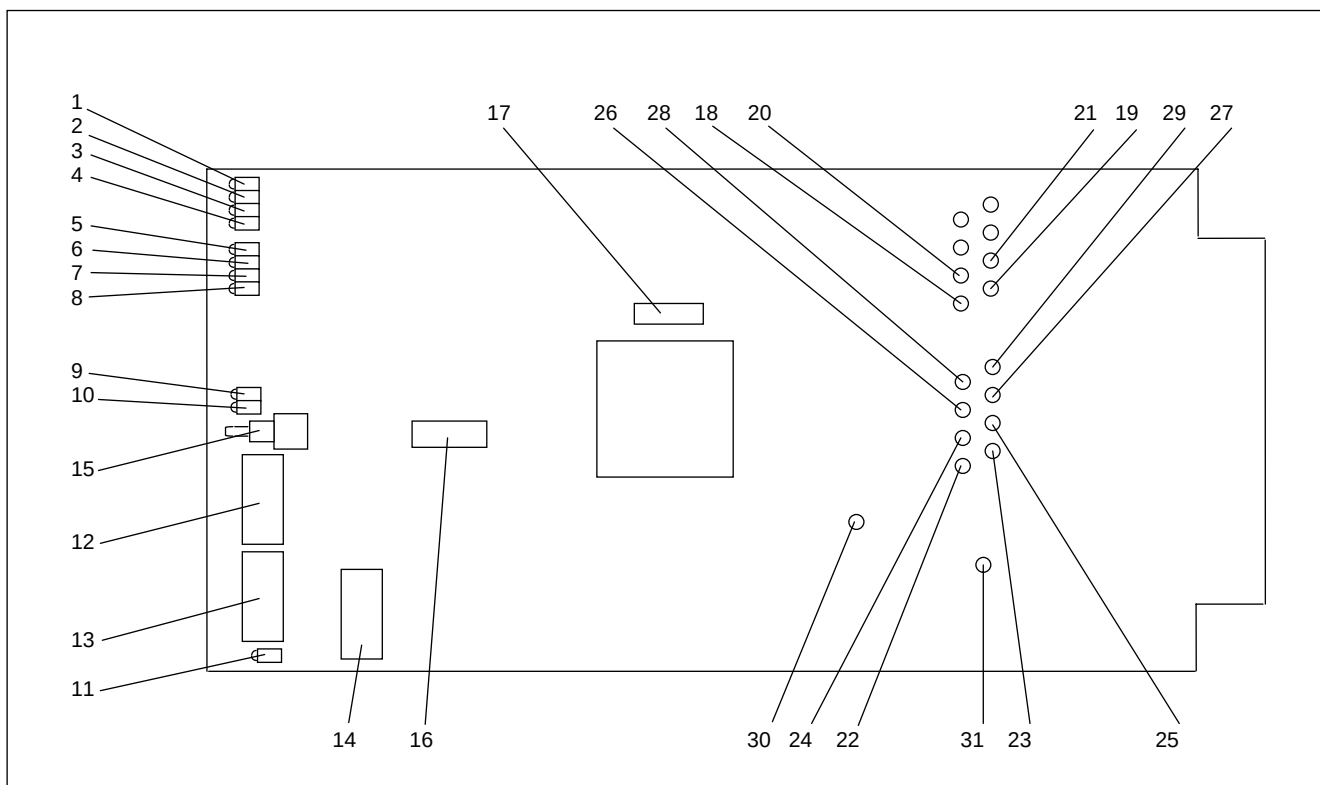

Figure 2. Controls and indicators, RFL DA-91I Asynchronous Data Polling Channel Module
5. Refer to Figure 2 and Table 2 for the location of DIP switches on the DA-91I module.